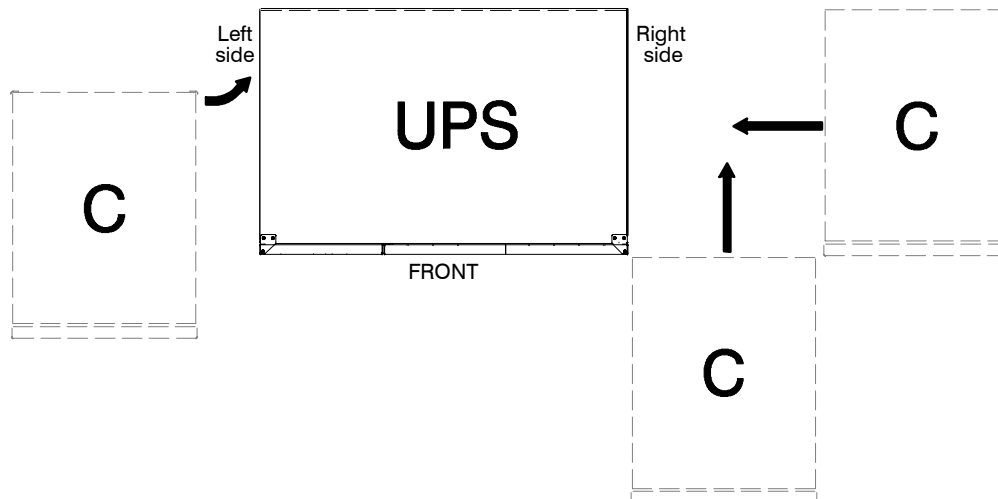

Figure 7. Joining an Optional Cabinet to the UPS
2. Roll the optional cabinet to a spot near the UPS, in any one of the three positions shown in Figure 7. A PDM or input transformer cabinet should be joined to the left side of the UPS.